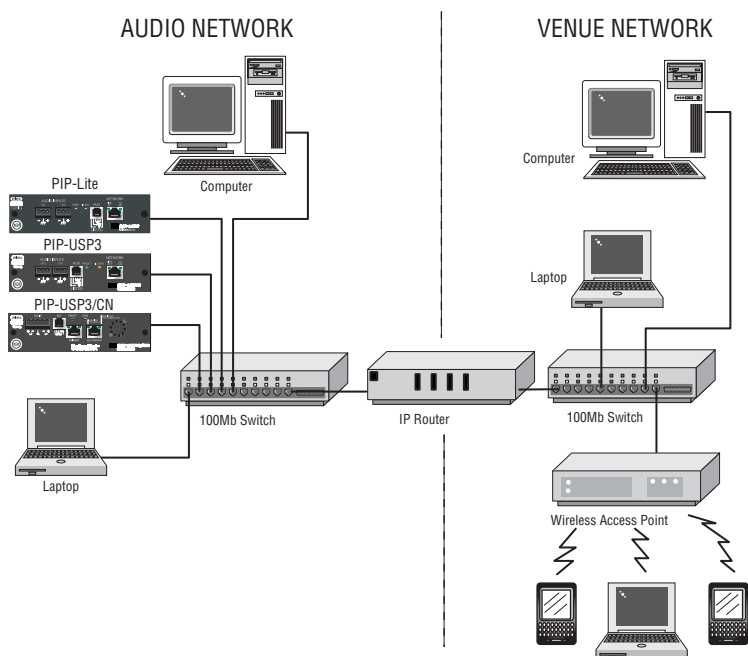

Figure 6.4 Multiple-Network Communication Via an IP Router
Internet Protocol (IP) Address: The IP address of a component is assigned during the setup of the network and identifies the IQ component to a larger audience. Because the MAC address is limited to a single physical LAN, communications between LANs is impossible solely through the use of the MAC address. The IP address allows components and controllers on other networks to communicate with each other through the use of an IP Router as shown in Figure 6.4.